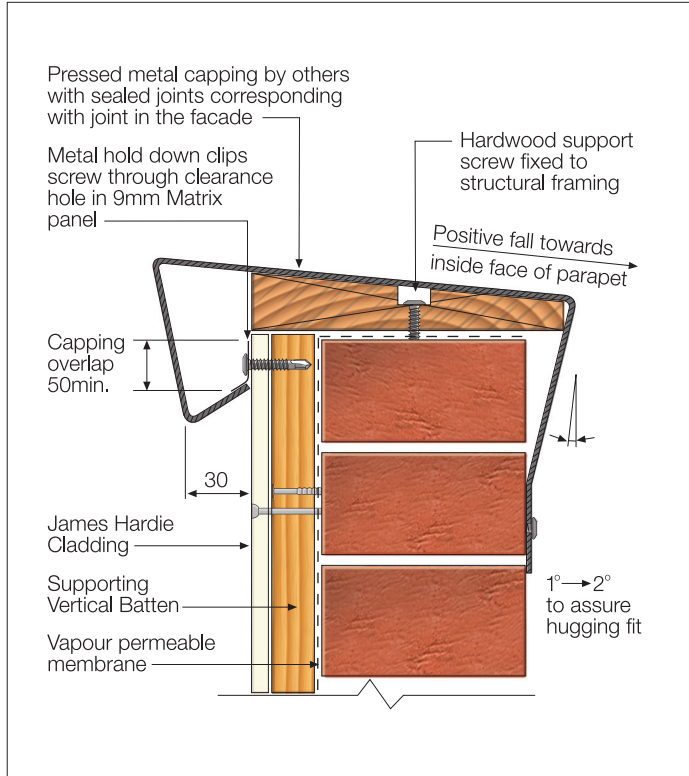

Figure 4 Parapet Capping Details
- Parapet walls must be capped with a continuous corrosion resistant flashing, see Figure 4 below.